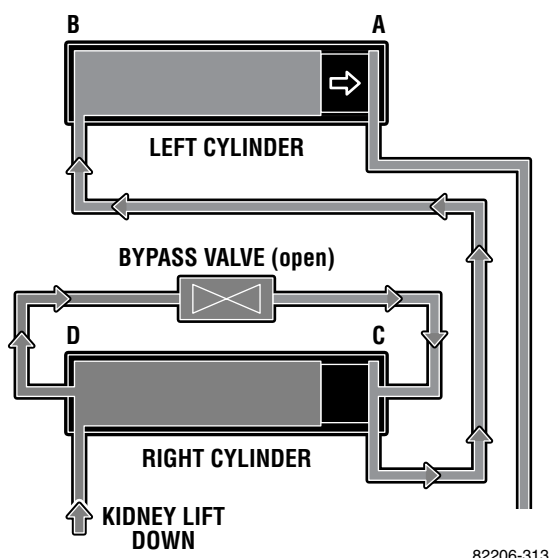

Figure 3-13.
4. Leave the bypass valve open and activate "KIDNEY DOWN". Hydraulic pressure keeps the piston in chamber "C", the hydraulic fluid passes through the bypass valve and fills cavity "B" pushing the piston into cavity "A". See figure 3-13.